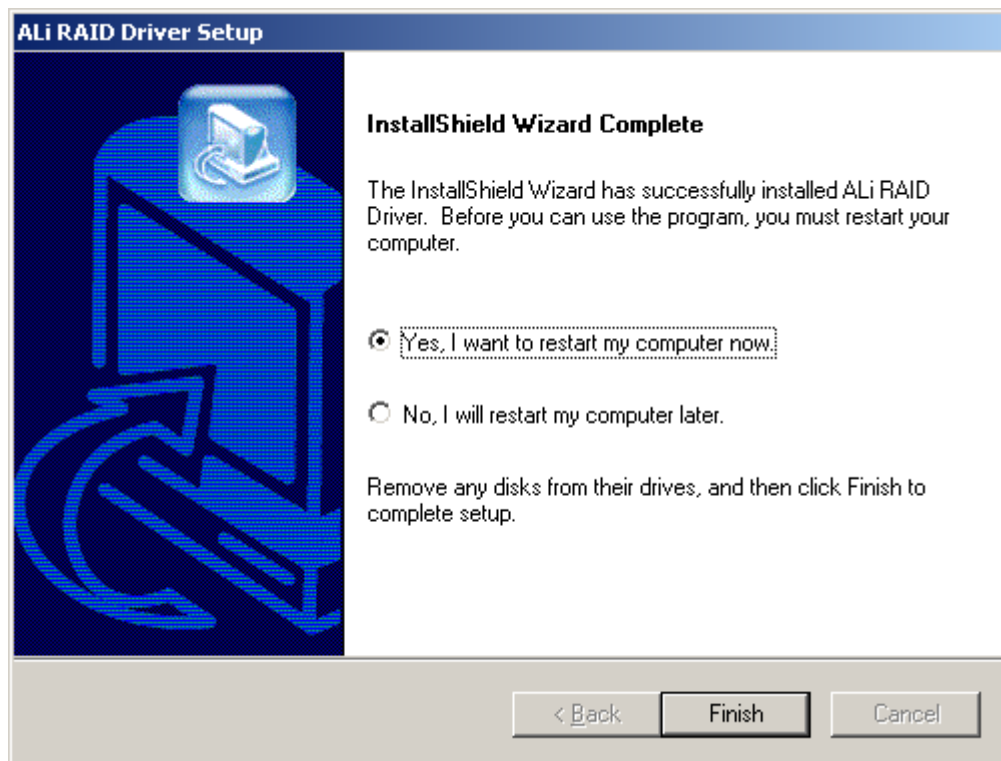

Figure 6-30: InstallShield Wizard Complete Screen
Step 8: Once the installation is complete, the **InstallShield Wizard Complete** screen appears (**Figure 6-30**).